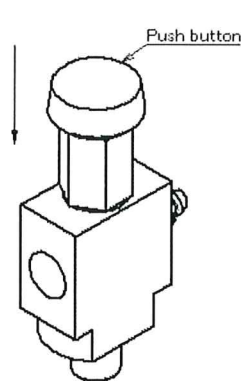

Figure. 3
- ③ After the indicator attached to the grease checker is activated, manually push down the push-in button to reset it when checking the equipment. (Figure. 3)